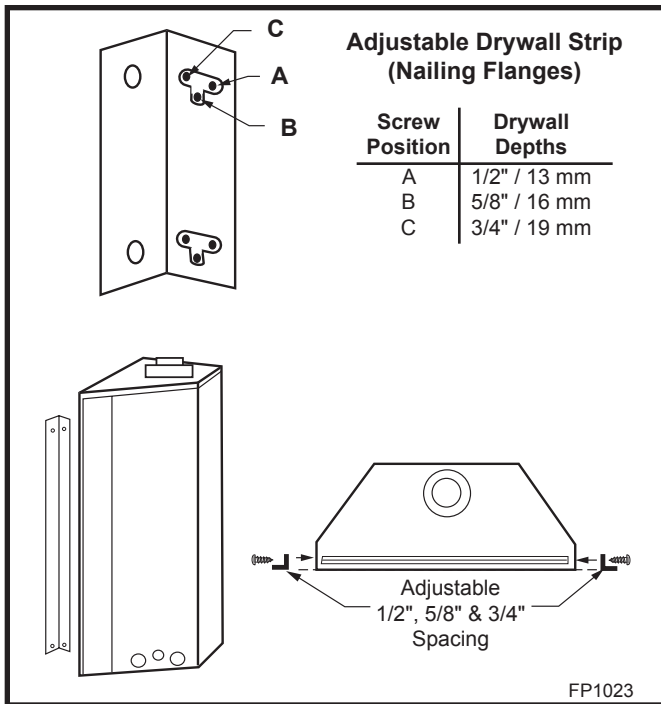

Fig. 3 Nailing flanges.
2. Nailing flanges are supplied with the fireplace (found on the fireplace hearth). To level the box and secure it firmly in place, remove the nailing flanges from the hearth and install at the sides of the firebox as shown in Figure 3.